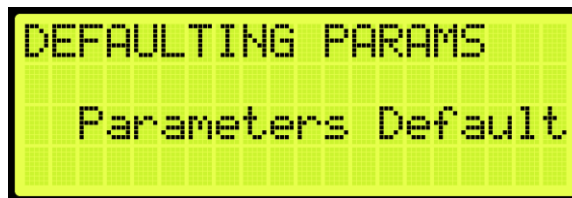

Figure 477: DEFAULTING PARAMS Menu – Parameters Defaulted
6. When the system has completed defaulting all parameters, the DEFAULTING PARAMS menu displays Parameters Defaulted (See Figure 477).
- When the system has completed defaulting all parameters, the DEFAULTING PARAMS menu displays Parameters Defaulted (See Figure 477).